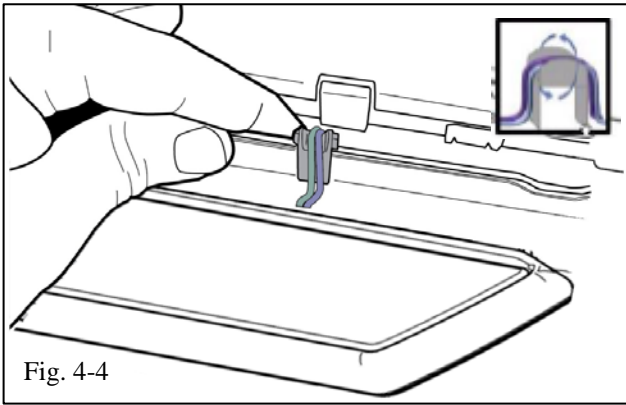

Fig. 4-4
- (g) Cradle the sill wires in the bridge clip and secure the door sill wires to the pinch clip with electrical tape. Install the bridge clip over the pinch weld in the vehicle sheet metal and tape down (Fig. 4-4).